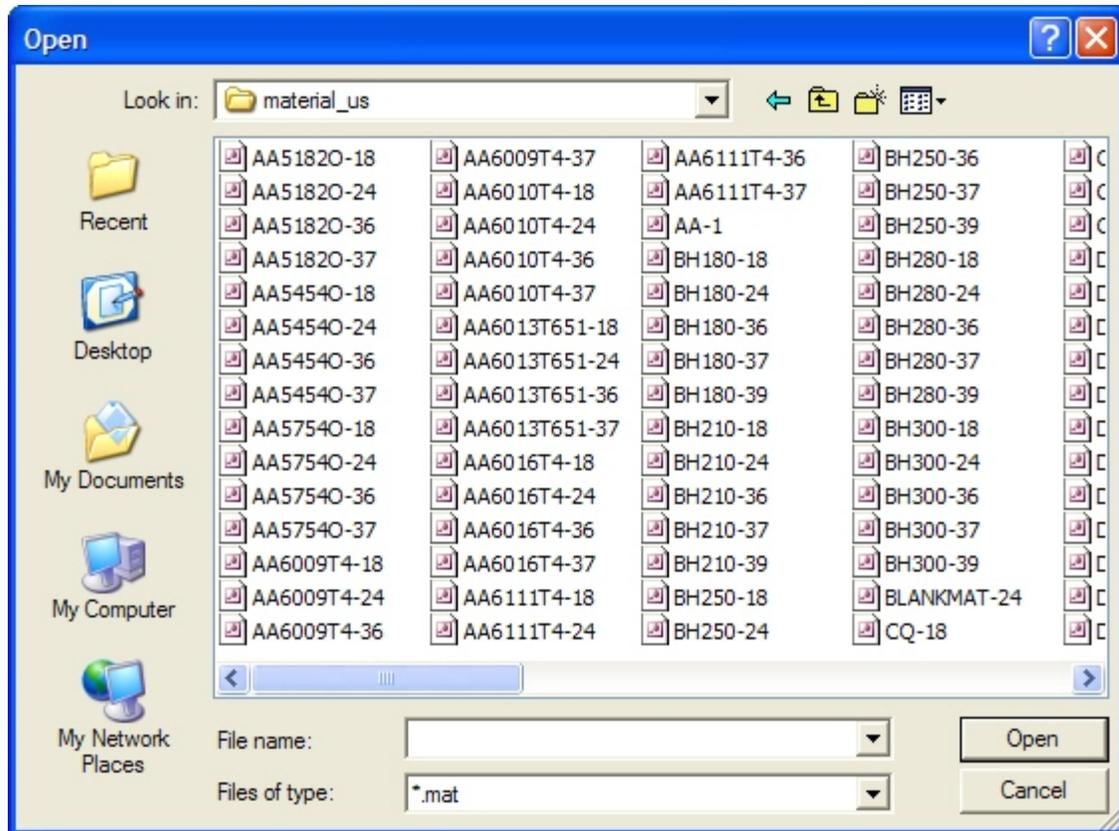

Figure 8.2.24 Import Material window
**IMPORT:** Allow the user to import a material file. The extension of the file name is “.mat”. By default, Import Material window illustrated in Figure 8.2.24 is displayed when the button is hit.